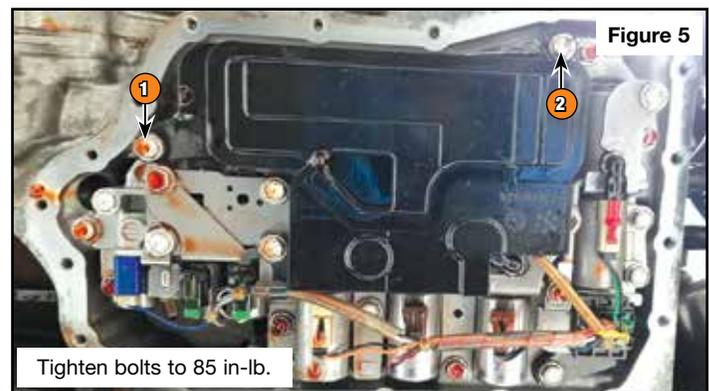

Figure 5
- Install filter and tighten two bolts to 85 in-lb (**Figure 5**).